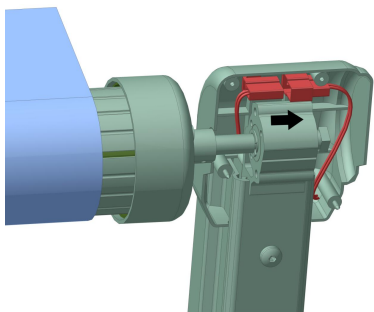
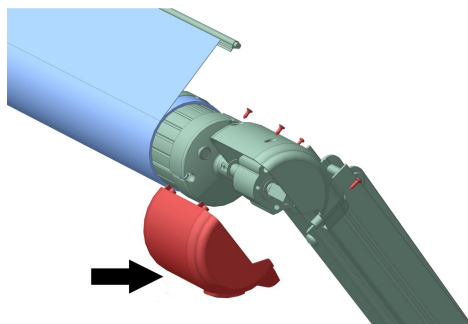

Figure D15
Figure D16
3.7.1 Put the decorative cover on the top of the motor side folding arm (Figure D15), connect the motor wiring, and reinstall the decorative cover. (Figure D16)